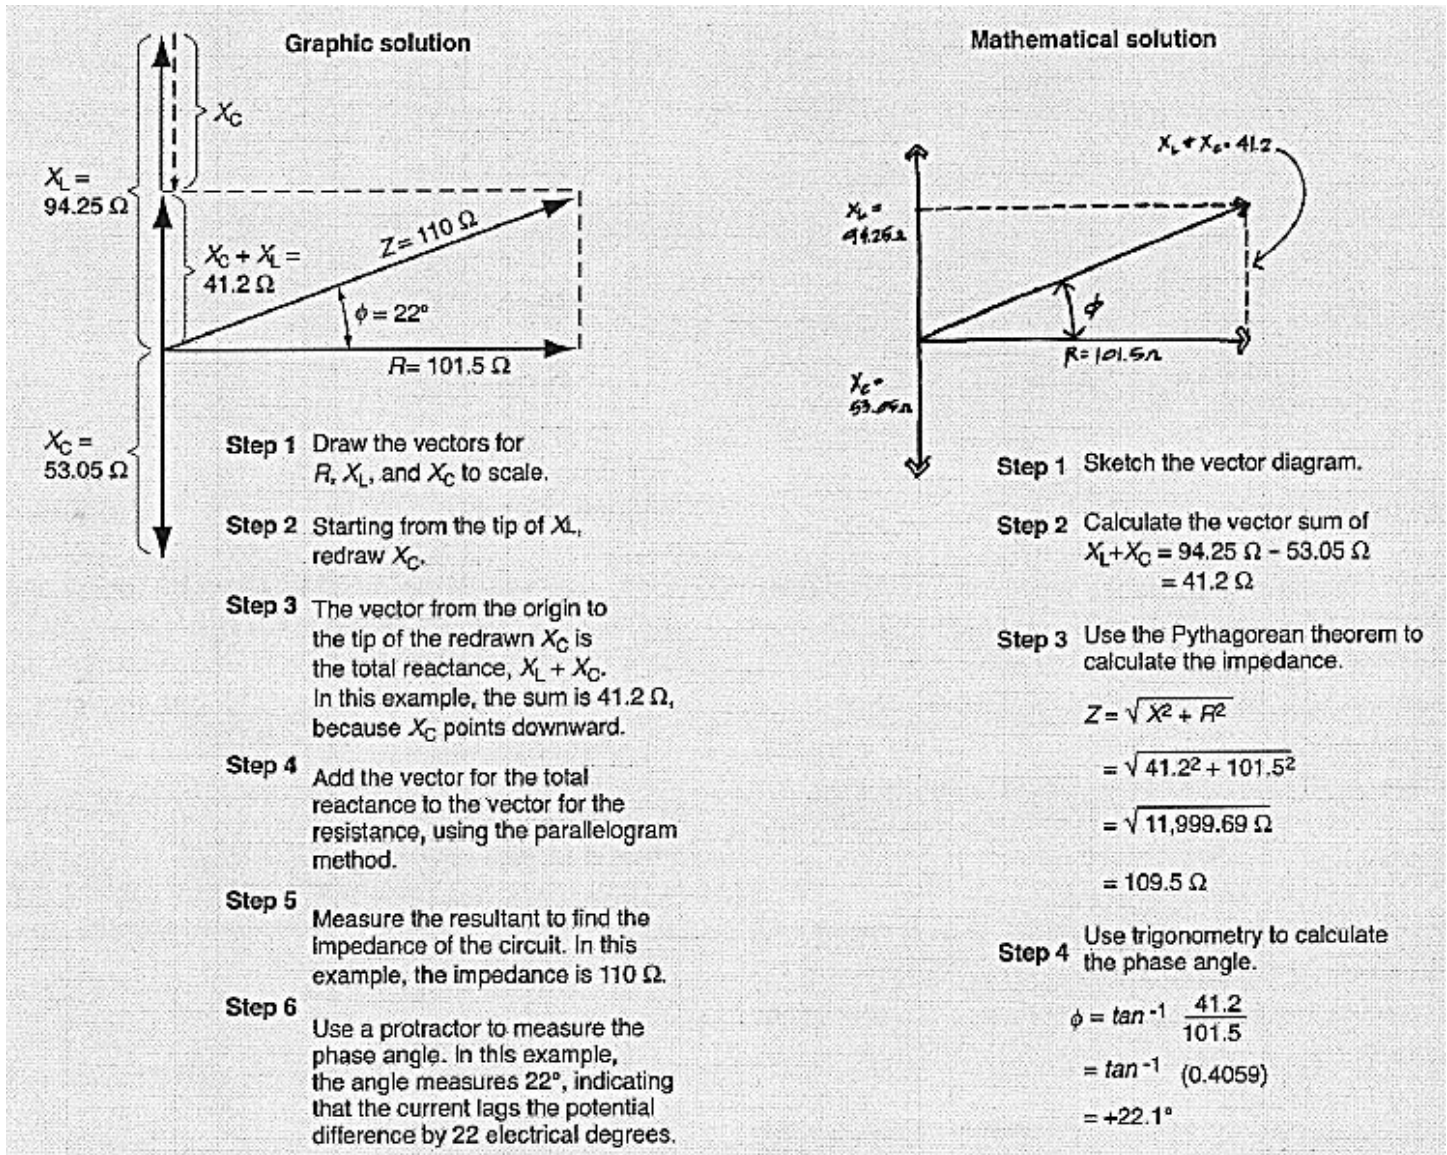

Figure 2.6: Solutions to an Impedance Problem
2-27 You are now ready to combine these values and find the impedance in the circuit. At this point, you can choose whether to combine them graphically or mathematically. Both solutions are shown in Figure 2.6. The mathematical solution includes a sketch, but the vectors are not drawn to scale.
- 2-54 In the example shown in Figure 2.6, the side opposite the phase angle is the reactance in the circuit which is  $41.2\Omega$ . The side adjacent to the phase angle is the resistance in the circuit which is  $101.5\Omega$ . Therefore, you calculate the phase angle as shown below: